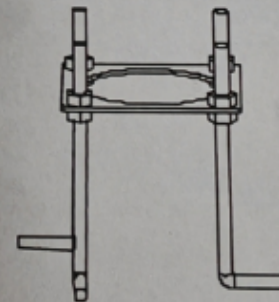

Fig3
- Prepare site. Get the anchor bolt carrier assembled as Fig3 and use it to determine placement of anchor bolts in concrete.